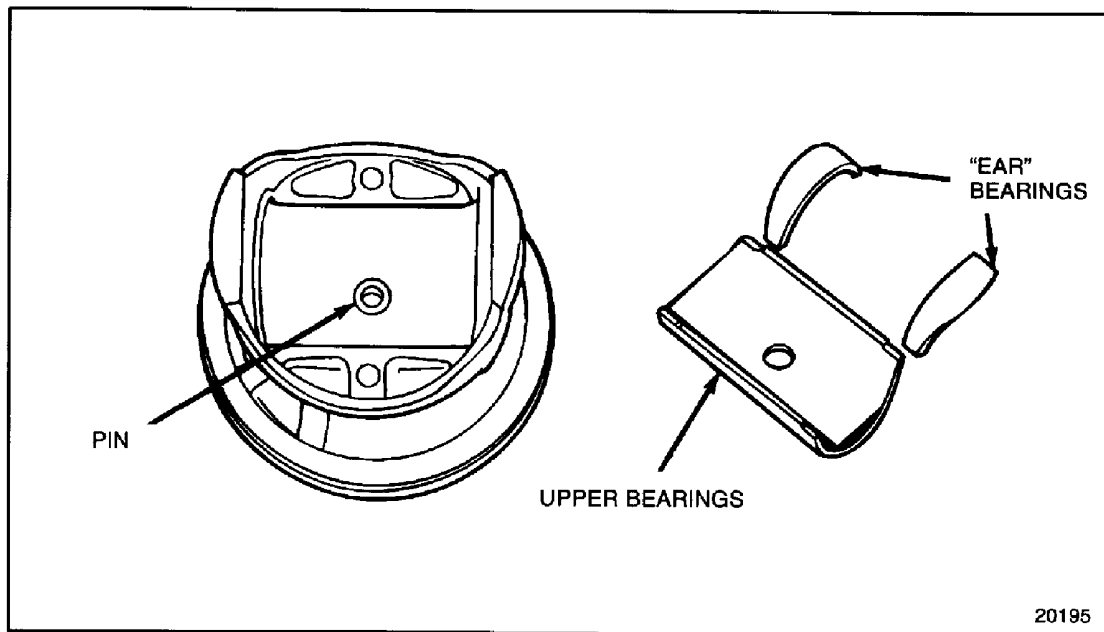

Figure 1-242 Piston Dome and Bearing Details
7. The lower bearing can then be pushed full into the bore with the thumb. See Figure 1-242.